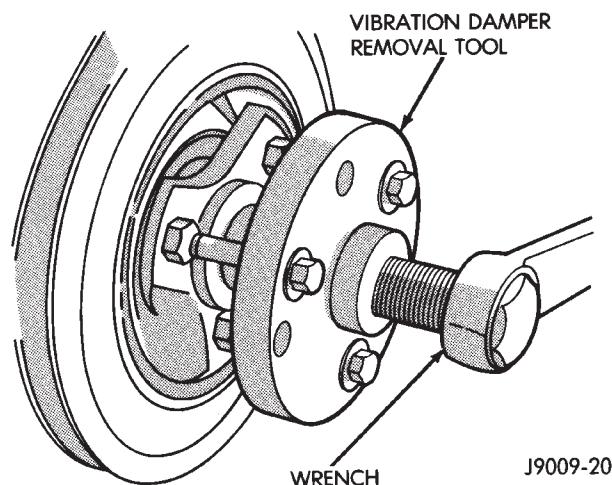

Fig. 40 Vibration Damper Removal Tool 7697
(1) Disconnect negative cable from battery.
(2) Remove the serpentine drive belt and fan shroud.
(3) Remove the vibration damper retaining bolt and washer.
(4) Use Vibration Damper Removal Tool 7697 to remove the damper from the crankshaft (Fig. 40).